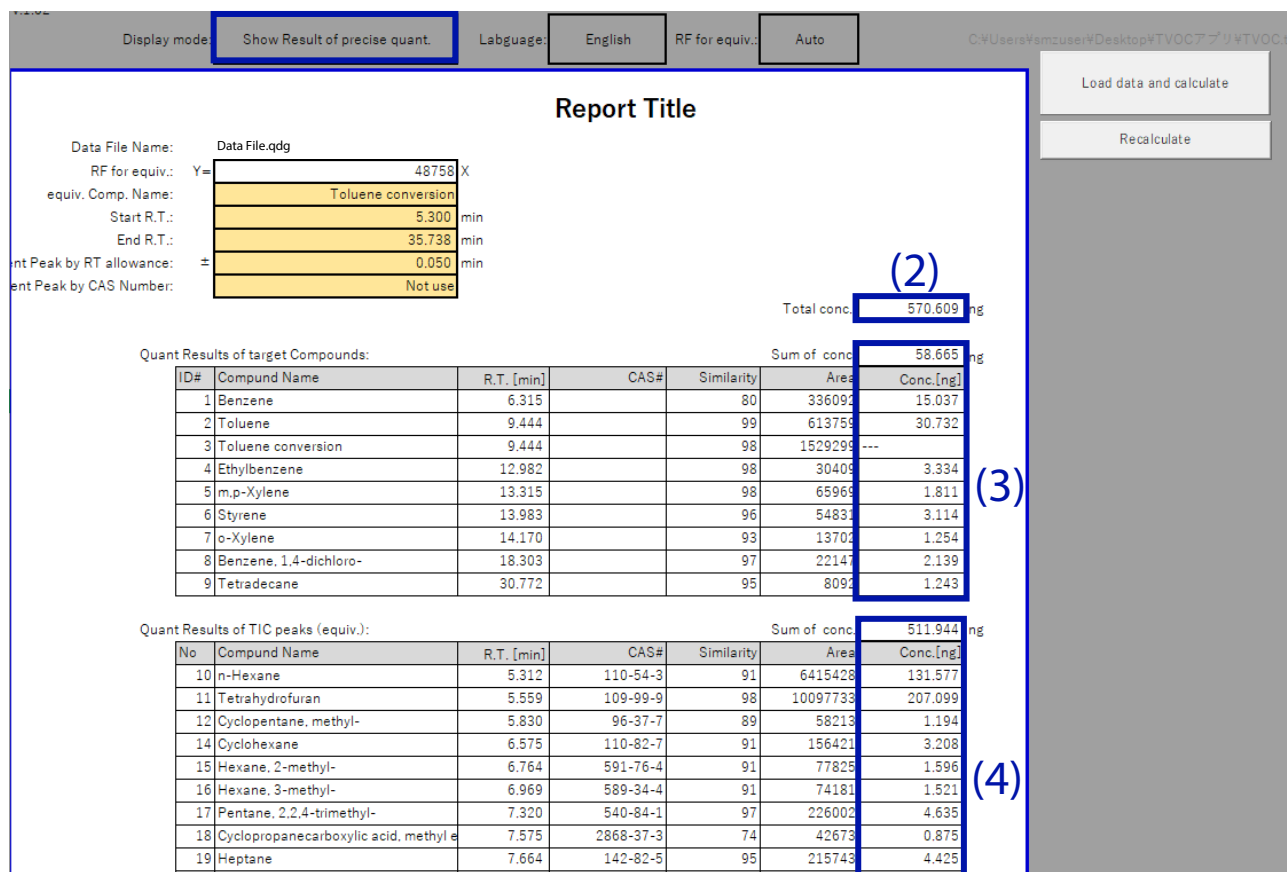

Fig. 6 Precise Quantitation of Target Compounds Only, and Quantitation of the Other Detected Compounds Using Toluene Conversion
In addition, as shown in Fig. 5 (1), either [Show Result of equiv.] (Toluene conversion quantitation) or [Show Result of precise quant.] (Precise quantitation) could be selected. As shown in Fig. 6 (3), if [Show Result of precise quant.] is selected here, recalculation is performed so as to calculate precise quantitative values for the target compounds (benzene, toluene, ethylbenzene, m,p,o-xylene, styrene, 1,4-dichlorobenzene, and tetradecane) which were measured to produce the calibration curves. Switching between quantitation using toluene conversion and precise quantitation can be performed with one click, to suit the analysis objective.